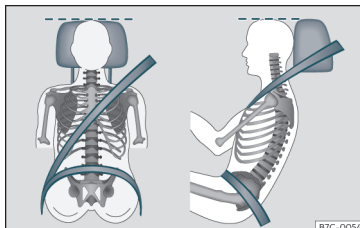

Fig. 3 Correct belt web and headrest positions
- Adjust the headrest so that its upper edge is at the same level as the top of your head, or as close as possible to the same level as the top of your head and under no circumstances below eye level. Keep the back of your neck as close as possible to the headrest»» **Fig. 3**.